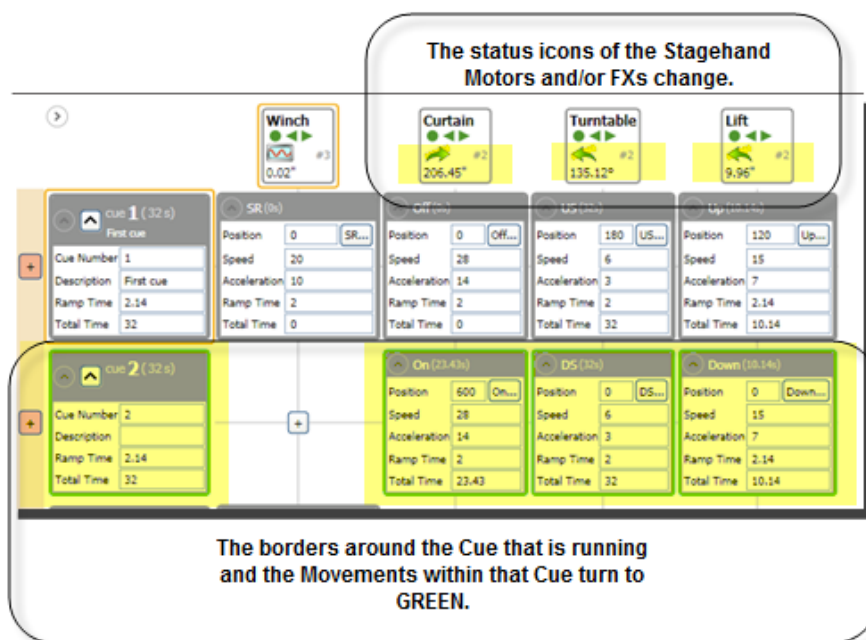

Figure 329
1. In the **Cue Grid**, the border around the Cue that is running and motor movements within the running Cue change to green and the Stagehand status icons change (Figure 329). *For a complete list of status icons and their meanings, see the “Motor Status” section on page 72 and the “FX Status” section on page 112.*